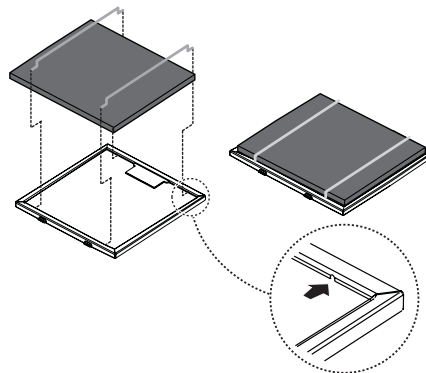

Fig. 4
2. Install the carbon filter behind the grease filter and fasten with two fixing elements (Fig. 4), to be inserted in the holes obtained in the frame.